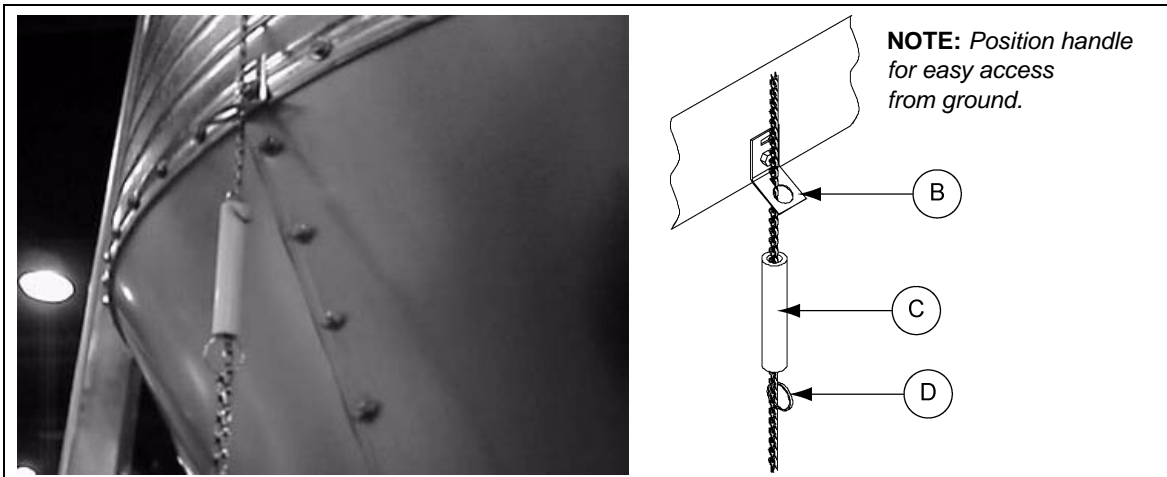

Figure 4
After removing the slack from the ground control chain while in the fully closed and latched position. Install the key ring clip 2" below chain holder bracket. (See Figure 4.) Ensure that the key ring allows the cap to fully latch when the cap is in the closed position, yet will not allow the chain enough slack on top of the cap to become wrapped around the pivot arm in a high wind condition.
Bolt the chain holder (BLK-11949) to the bottom horizontal row of sidewall holes or field drill and bolt to the leg tie brace. (See Figure 4 on Page 2.) Two (2) 4" plastic handles and extra key ring clips are provided for use at the hopper eave to be used as fully open and fully closed cap indicators.